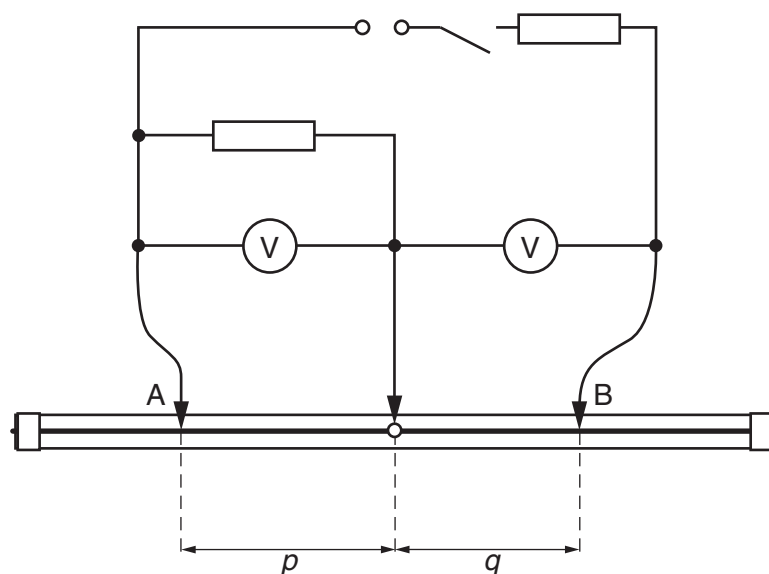

Fig. 1.2
- (ii)** Connect A to the wire at a distance  $p$  of approximately 25 cm from the screw, as shown in Fig. 1.2.
The distance between the screw and B is  $q$ , as shown in Fig. 1.2.